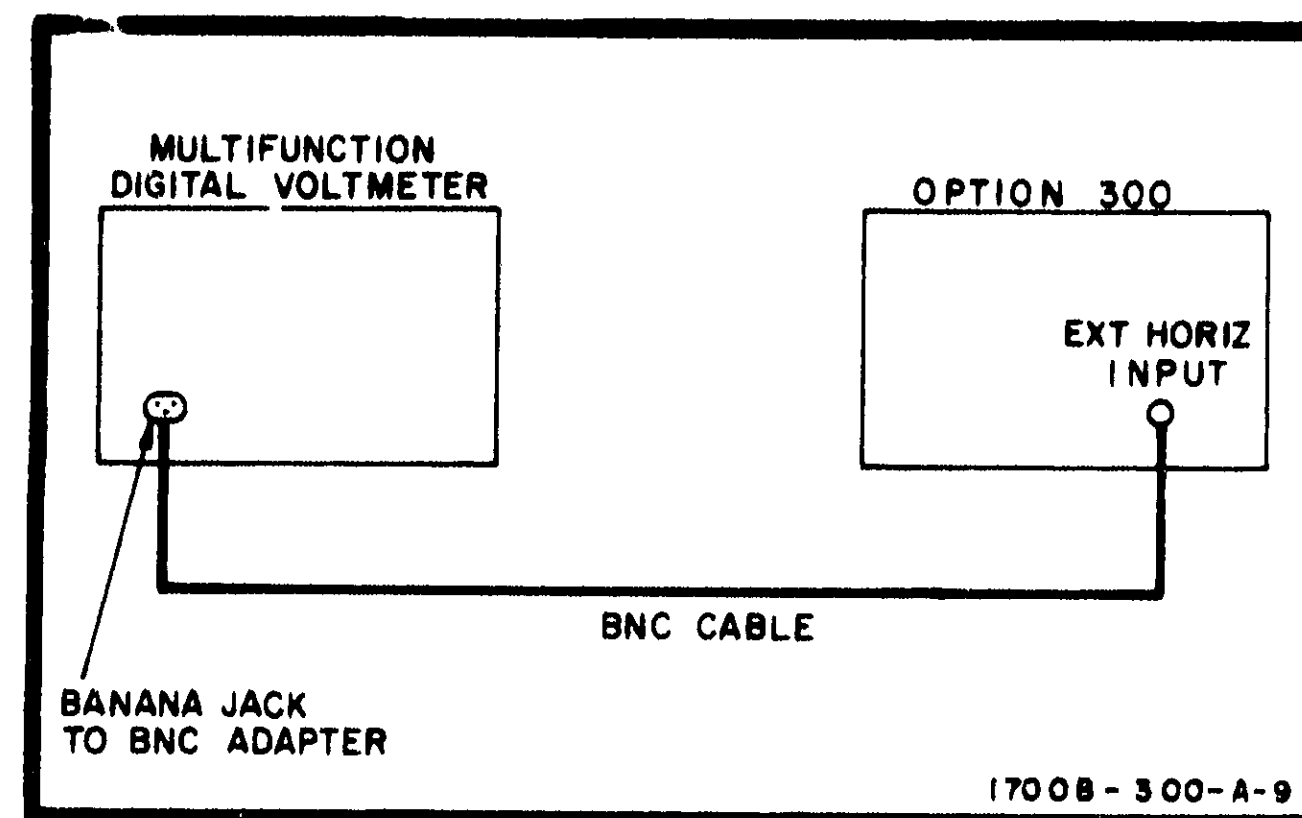

Figure 5-12. Ext Horiz Input Resistance Test Setup
- Connect instruments as shown in figure 5-12.